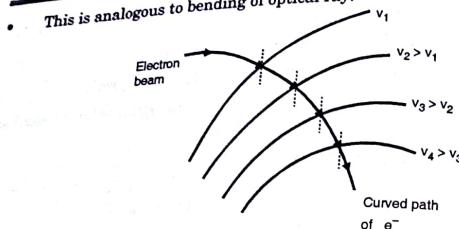

Fig. 7.9.1 : Curved path of electron beam
- If we take a non uniform electric field represented by more than one equipotential surfaces separating equipotential regions of potentials $V_1, V_2, V_3, V_4, \dots$ etc. as shown in Fig. 7.9.1, a curved path of electron motion can be observed.